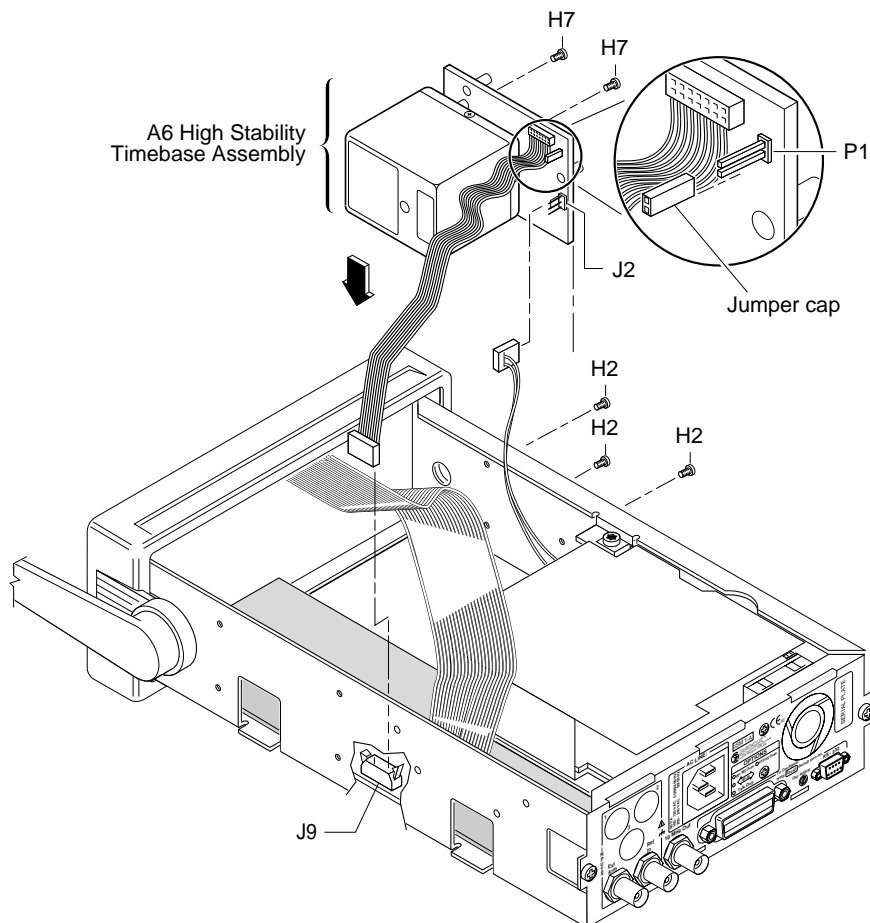

Figure 4-2. High Stability Timebase Retrofitting (Option 001, 010, 012)
- 4 Plug the oven oscillator into the socket on A6 Timebase Support Board, and secure the oven oscillator to A6 using the two Pozidriv screws (H7) as shown in Figure 4-2.
- 5 Plug the oven oscillator into the socket on A6 Timebase Support Board, and secure the oven oscillator to A6 using the two Pozidriv screws (H7) as shown in Figure 4-2.
- 6 If you are retrofitting the Option 001 Medium Stability Timebase, remove the jumper cap on P1 of A6 Timebase Support Board as shown in Figure 4-2.
- 7 Mount A6 High Stability Timebase Assembly on the left side using three TORX 10 screws (H1) as shown in Figure 4-2.
- 8 Plug the power supply assembly’s two-wire cable into the three-prong connector (J2) on the high stability timebase assembly as shown in Figure 4-2 (if the two-wire cable exists).
- 9 Connect A6 High Stability Timebase Assembly cable to connector J9 on A1 Motherboard Assembly as shown in Figure 4-2.